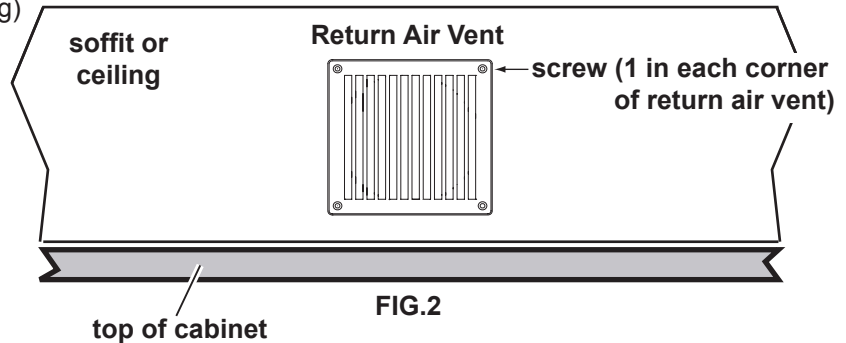

FIG.2
1. Cut a 6-1/2" round opening in soffit or ceiling where the ducting will connect to the return air vent. **FIG.2**
3. Secure return air vent to soffit or ceiling with (4) screws.